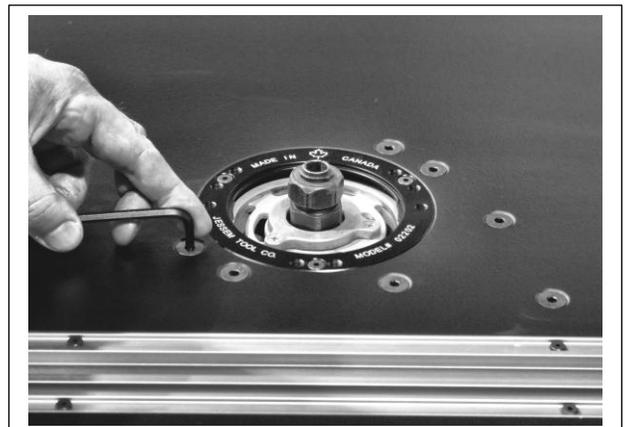

Figure 18
1. Place the insert ring into the center ring of the Excel II. (Fig. 18).